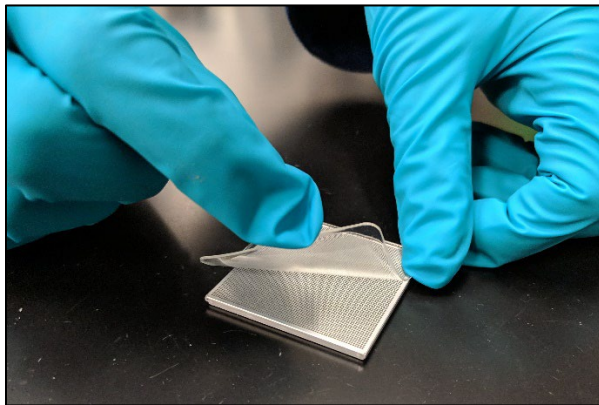

Figure 100. Removing the film from the chip.
3. Carefully peel the film from the chip (Figure 100, below). First, anchor one corner of the chip with your finger. Then, using the tab on the film, apply even pressure until the film is removed.